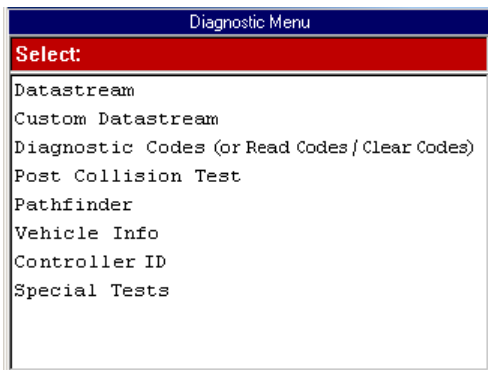

Figure 3.17: Diagnostic Menu Screen
- If either a Message screen or a Diagnostic Menu screen appears, continue with Step 4: Select the Diagnostic Function on page 20. (See Figure 3.17 on page 20.)